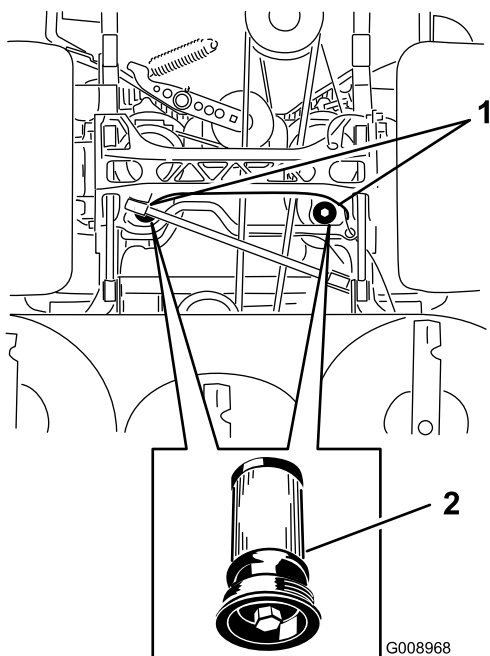

Figure 85
5. Place a drain pan under the filter, remove the old filter, and wipe the surface clean (Figure 85).
6. Apply a thin coat of hydraulic oil to the rubber gasket on the replacement filter (Figure 85).